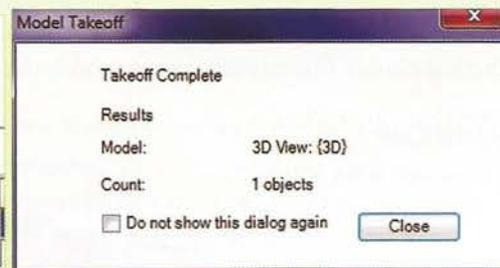

Fig 7: Model Takeoff
- Select the imported model in the 'Document' palette and activate 'Model Takeoff' tool. And select on the wall model in the canvas. Close the confirmation dialog box (Figure 7).